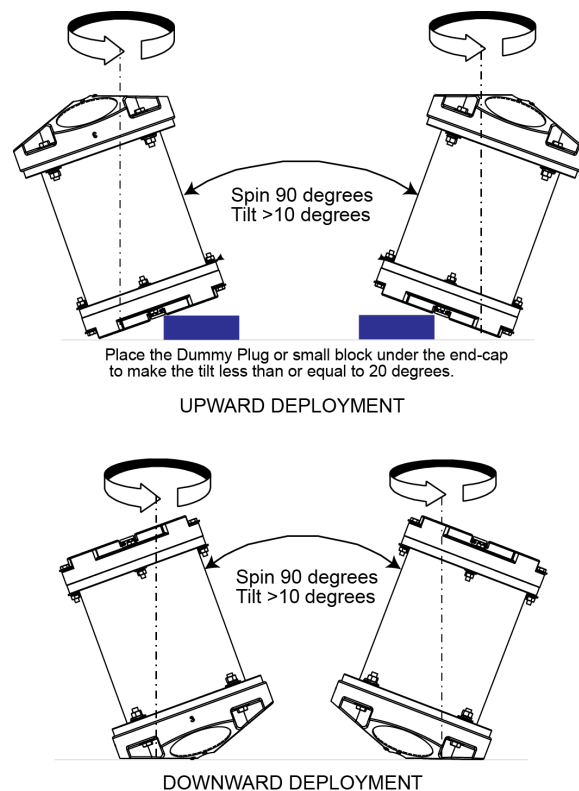

Figure 53. Compass Calibration
5. Tilt the ADCP (see Figure 53). Tilt an upward-looking WorkHorse with a block under one side of the end-cap. A 35-mm block will give you an 11-degree tilt. Check the on-screen instructions to see if the orientation is OK. Adjust as necessary.
7. The second rotation requires the ADCP to be tilted 15 degrees in another direction than from the first rotation (see Figure 53). Follow the on-screen instructions to orient the ADCP correctly. When prompted, rotate the ADCP slowly 360 degrees (approximately 5 degrees per second).